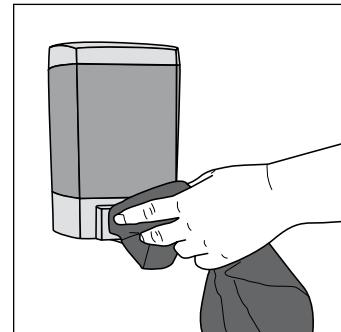

Figure 5
- Cleaning all touch-points on dispenser with a disinfectant should be part of a regular cleaning schedule. (See Figure 5)